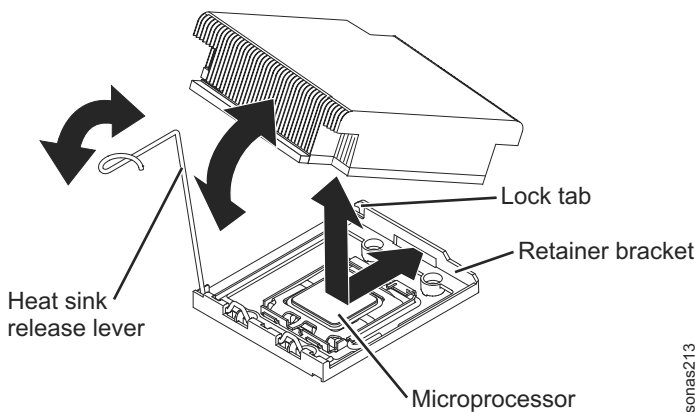

Figure 43. Aligning the heat sink above the microprocessor
16. Align the heat sink above the microprocessor with the thermal grease side down. See Figure 43.